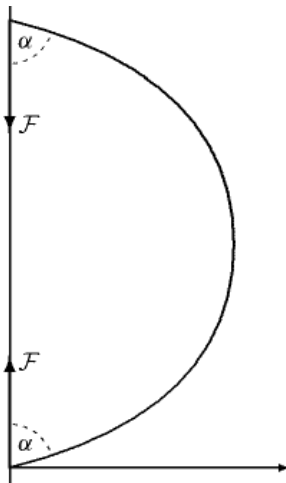

Figure 1: The geometry of a stringed bow with opening angle α . The bow is kept in mechanical equilibrium by a force $\mathcal{F}$.
- i. The deformation of the bow can be described by a single parameter — the so called *opening angle*, α . See Fig. 1 for the sketch of a bow geometry and the definition of opening angle.